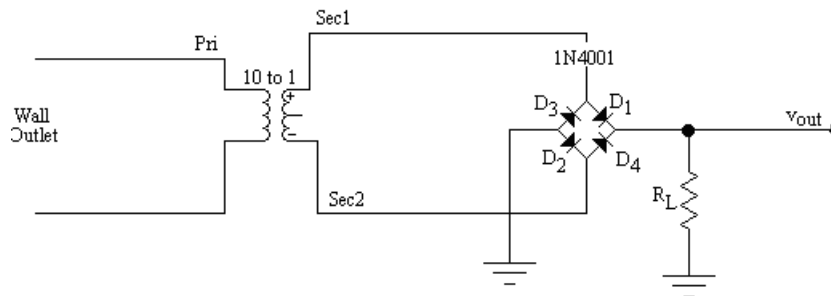

Figure 7.3: Bridge Rectifier Circuit
3. Calculate  $v_{OUT}$  for Figure 7.3, with  $D_1 = 1N4001$ ,  $D_2 = 1N4001$ ,  $R_L = 1 \text{ k}\Omega$ . Show all computer simulation.
3. Construct the circuit of Figure 7.3. Measure Sec1, Sec2,  $v_{OUT}$ , using the oscilloscope.